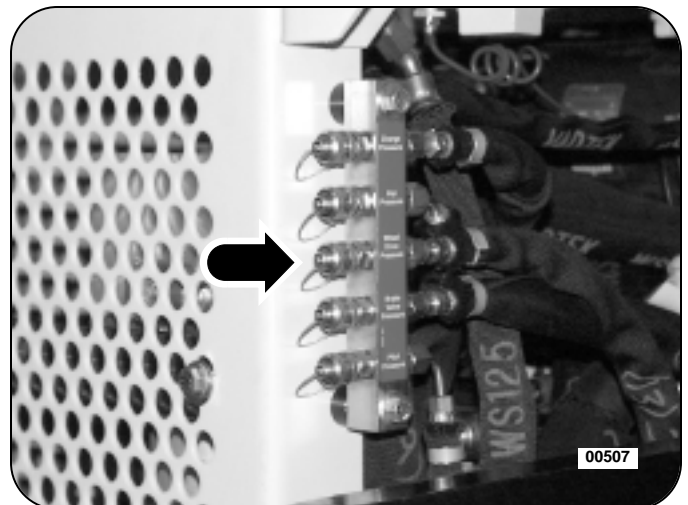

Figure 10: Wheel Drive Pump Pressure Gauge Port Tap
3. Connect the 10,000 psi pressure gauge, with the TIMBCO quick-couple adapter attached, to the gauge port tap provided on the centralized pressure check manifold. See Figure 10.